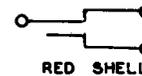

Fig. 13—359A Plug
2.07 359A: The 359A plug (Fig. 13) is designed so that the sleeve of the plug makes contact with the sleeve of the associated jack, and the tip of the plug makes contact with the ring spring of the jack. There is no contact made with the tip spring of the jack. The 359A plug is used with the 141- or similar-type jacks, and is used on the No. 2 Telegraph Service Board. The 359A plug replaces the 334A plug.